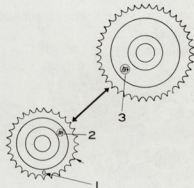

Fig.3-51 Aligning TOYOTA Marks G0319
Positioning this "O" mark at the lower position, align the TOYOTA mark (2) on the crankshaft timing gear, and the mark (3) on the pump drive shaft gear as illustrated in the figure 3-51.